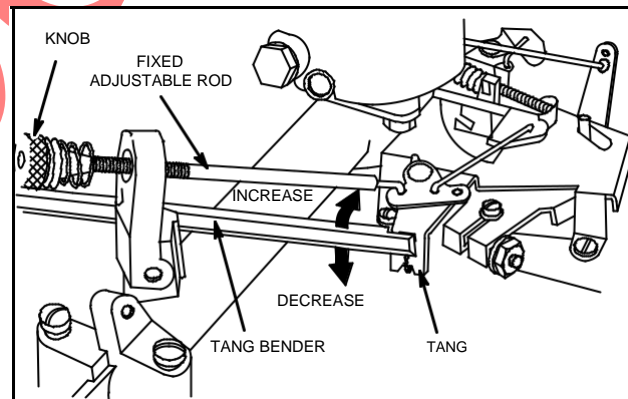

Fig. 31 – Adjust Governed Idle
3. While holding rod in, bend governed idle tang to obtain 1300 RPM, Fig. 31.